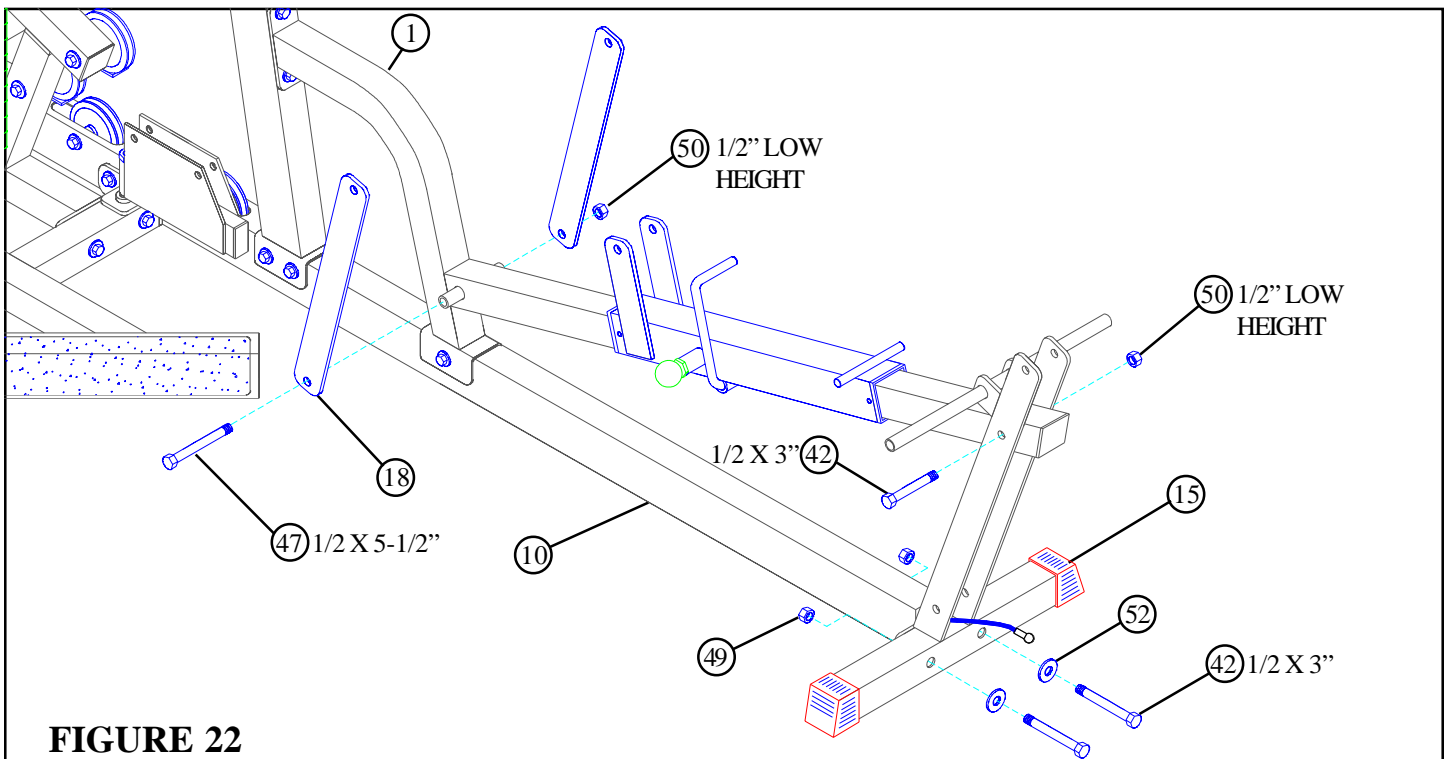

FIGURE 22
- Securely fasten the LEG SUPPORT (15) to the BASE (10) using two 1/2 X 3" BOLTS (42), two 1/2" WASHERS (52) and two 1/2" LOCKNUTS (49).
- Securely attach FRAME SUPPORT (1) to the LEG SUPPORT (15) using one 1/2" X 3" BOLT (42) and one 1/2" LOW HEIGHT LOCKNUT (50) as shown in FIGURE 22.
- Attach two 2 X 16-1/2" PLATES (18) to the FRAME SUPPORT (1) using one 1/2 X 5-1/2" BOLT (47), and one 1/2" LOW HEIGHT LOCKNUT (50) as shown on FIGURE 22. (**NOTE: Securely tighten, then back nut off 1/4 turn to allow the 2 X 16-1/2" PLATES (18) to rotate freely.**)